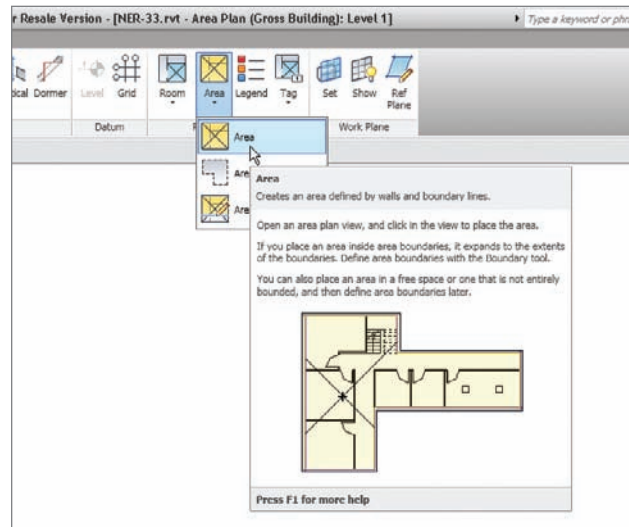

FIGURE 15.29 The Area button
8. On the Room & Area tab, click the Area button, as shown in Figure 15.29.